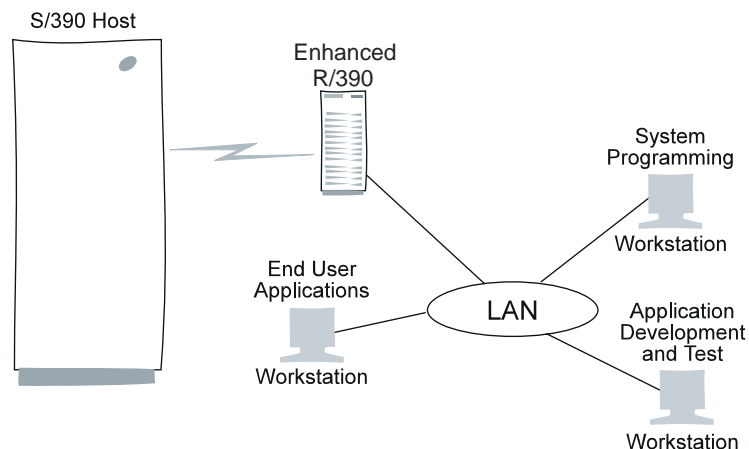

Figure 2. Enhanced R/390 as an Application Development Workbench
**Application Development.** The Enhanced R/390 is a cost-effective platform to develop UNIX client/server applications for both the S/390 environment and the RS/6000 environment. Figure 2 shows an Enhanced R/390 being used for application development. As a development workstation that is ideal for small development teams, the Enhanced R/390 exploits the productivity of S/390 and UNIX development tools while having immediate access to a S/390 and AIX system for testing and debugging applications. UNIX-based system design and re-engineering CASE tools plus S/390 3GL and 4GL tools, such as object-oriented SOM and DSOM, can help shorten the development cycle for S/390 and UNIX environments. As a dedicated resource for development and test, the Enhanced R/390 increases the availability of the host production system in the following ways: